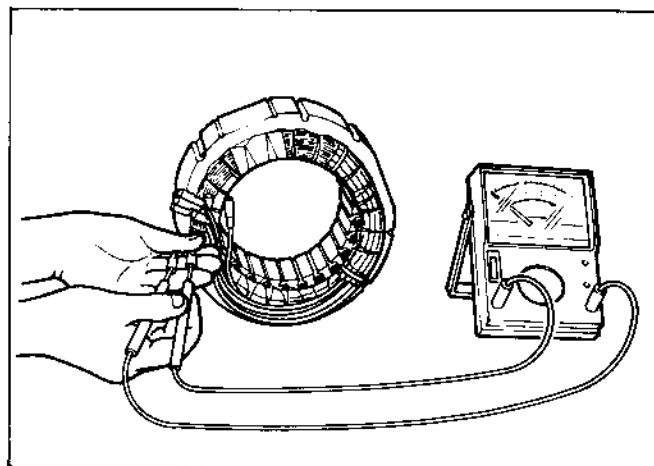

Fig. 11-1
- Measure the resistance between terminals on stator leads. (See Fig. 11-1.)